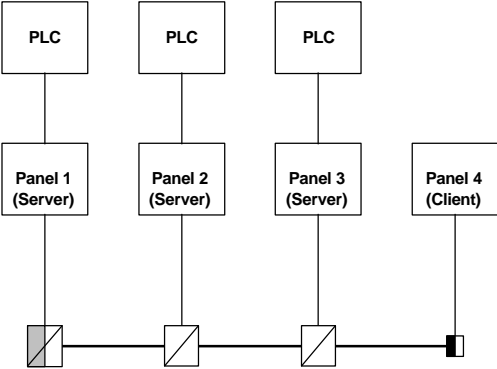

Figure 13-2
- Figure 13-2 shows a configuration in which many controllers are accessed. The panels that are connected to a controller can function both as Servers and Clients. Therefore, they can read data from the controller to which they are directly attached and also from the controllers attached to other Servers. The Client panel can also read data from the controllers attached to the Servers. In this way, every single panel in the network has access to every single controller attached to the Servers in the network.
The network configuration shown in Figure 13-2 works even if the controllers are of different model types or if they are of different manufacturer brands. Designer allows the user to specify the addresses of the data items added to the project file using controller-specific addressing.